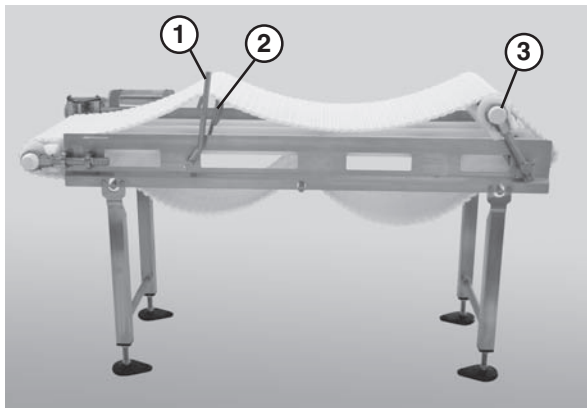

Figure 45
2. Use the lifter handle (Figure 45, item 1) to raise the lifters (Figure 45, item 2) and raise the tip up tail (Figure 45, item 3).